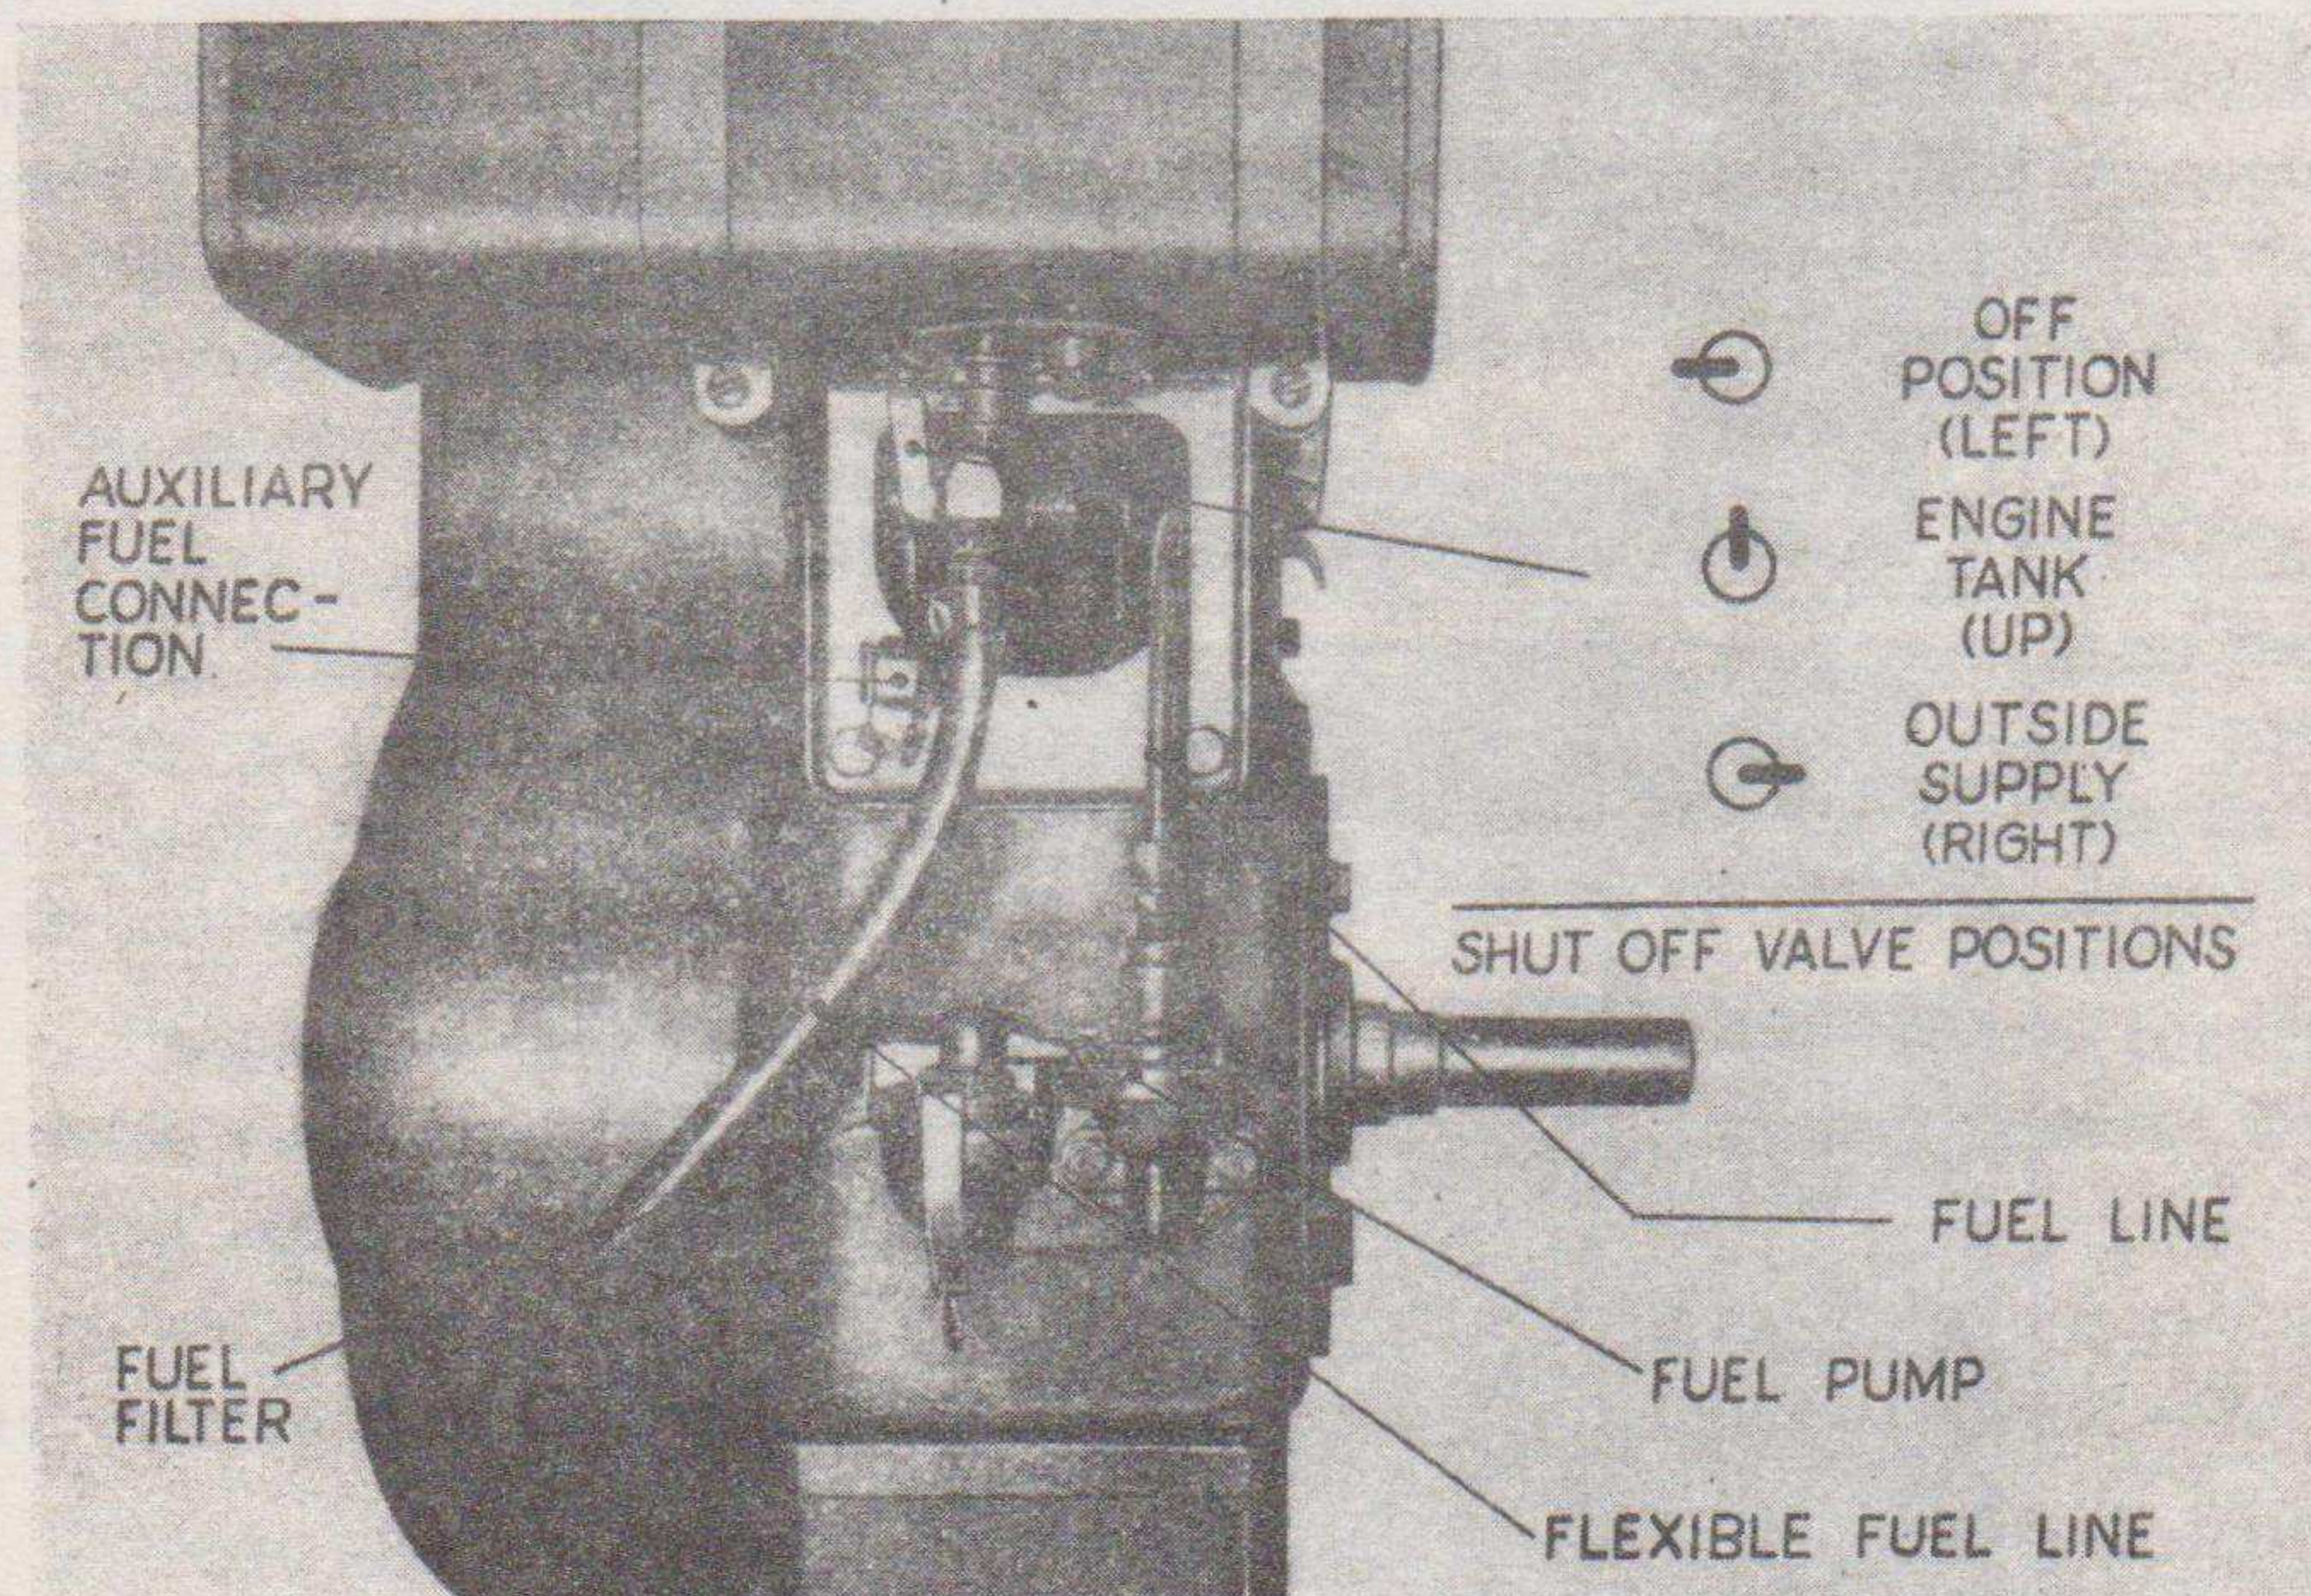

Figure 7. Power Unit PE-75-AF-GY, fuel supply assembly.
d. If fuel is to be drawn from a remote supply tank, it is recommended that the tank be located outside the building or shelter and as far from the unit as the length of the remote fuel supply line will permit. Connect one end of the remote fuel supply line to the three-way fuel valve on the unit and connect the other end to the fuel supply tank (fig. 7).
Fill the fuel tank and inspect all connections in the fuel line for leaks. Turn the three-way fuel valve so that the handle is pointing upward. Have some one hold a finger on the stop button on the breaker box and crank the engine several times while the stop button is being pressed. If the fuel pump is functioning properly, the glass sediment bowl, which is part of the fuel filter, will fill with fuel. Shut off the fuel supply by turning the three-way valve (fig. 7) so that the handle is pointing to the left. If fuel is to be drawn from a remote source, remove the cap from the auxiliary fuel connection elbow and connect the remote fuel line to the elbow. If a remote fuel supply is not to be used, make sure that the cap is securely in place on the auxiliary fuel connection elbow. Check the carburetor and all connections to see that there are no leaks. Try all control linkage to see that it moves freely.
- (1) Drain the engine crankcase and refill it with Oil, lubricating, preservative (PL-Special).
- (2) Drain the fuel tank and refill it with fresh fuel to which gum preventive compound has been added, in the proportion of one-quarter container of gum preventive compound to 5 gallons of gasoline.
- (3) Place the three-way fuel valve in position to draw fuel from the fuel tank on the unit (fig. 7) (handle pointing upward). Operate the unit on this fuel mixture for 5 minutes. Shut off the fuel supply and permit the unit to come to a stop by pumping the carburetor dry.
- (4) Disconnect the lower end of the fuel line from the fuel shut-off valve and drain the fuel tank.
- (5) Remove the sediment bowl and screen from the fuel pump assembly and clean them thoroughly.
- (6) Disconnect the fuel line from the fuel pump and from the carburetor and blow it out with compressed air.
- (7) Remove the high speed jet assembly from the carburetor and drain the carburetor thoroughly.
- (8) Crank the unit several times to remove any fuel that may remain in the fuel pump.
- (9) Reassemble the screen and sediment bowl to the fuel pump assembly and replace the fuel line between the fuel pump and carburetor.
- (10) Remove the spark plug from the engine. Have someone crank the engine and, while the engine is being cranked, spray oil (PL-Special) into the cylinder through the spark plug hole.
- (11) Remove the valve cover plate from the side of the cylinder and spray the valve mechanism with oil (PL-Special).
- (12) Drain the preservative oil from the engine crankcase. Attach a red tag to the crankcase oil filler which reads as follows: